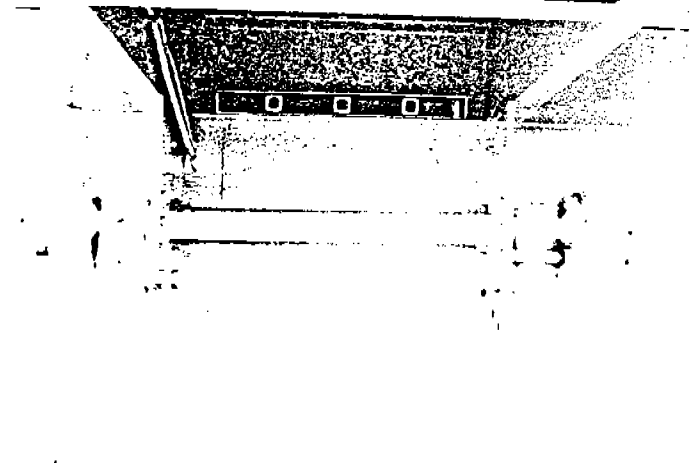

Fig. 5
- d. Level the trailer side to side, at both front (5) and rear (6) and along the length (7). (Figs. 5, 6, 7)